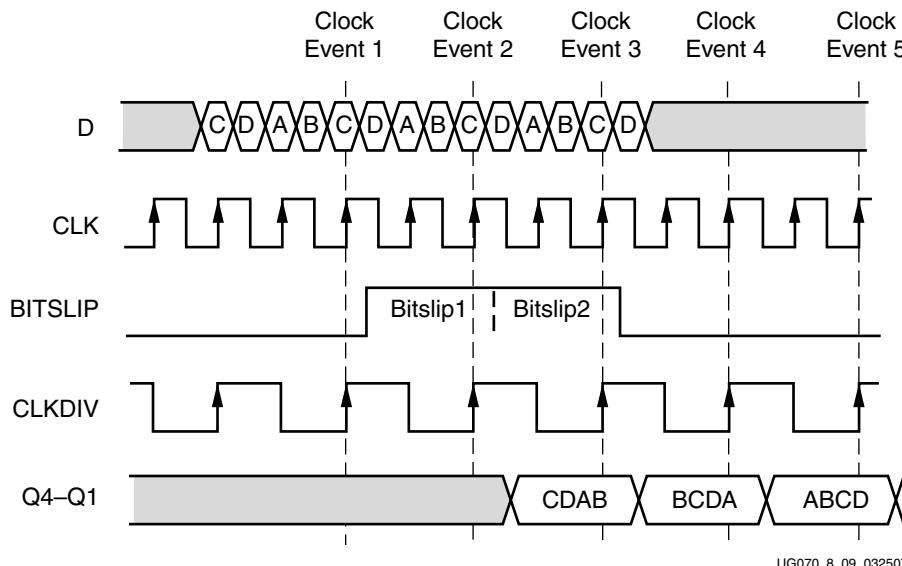

Figure 8-12: Bitslip Timing Diagram
This section discusses the timing models associated with the Bitslip controller in a 1:4 DDR configuration. Data (D) is a repeating, 4-bit training pattern ABCD. ABCD could appear at the parallel outputs Q1–Q4 of the ISERDES in four possible ways: ABCD, BCDA, CDAB, and DABC. Only one of these four alignments of the parallel word makes sense to the user's downstream logic that reads the data from the Q1–Q4 outputs of the ISERDES. In this case, it is assumed that ABCD is the word alignment that makes sense. Asserting Bitslip allows the user to see all possible configurations of ABCD and then choose the expected alignment (ABCD). Figure 8-12 shows the timing of two Bitslip operations and the corresponding re-alignments of the ISERDES parallel outputs Q1–Q4.